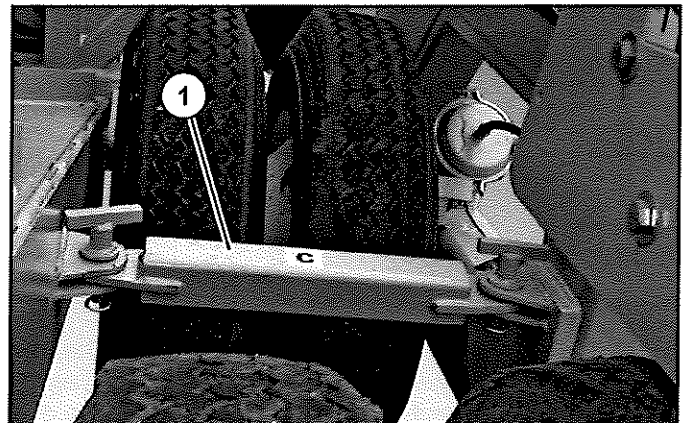

Figure 16
2. Remove the two "C" bars (Item 1) (**Figure 16**) from the transport position and pin into the operating position.